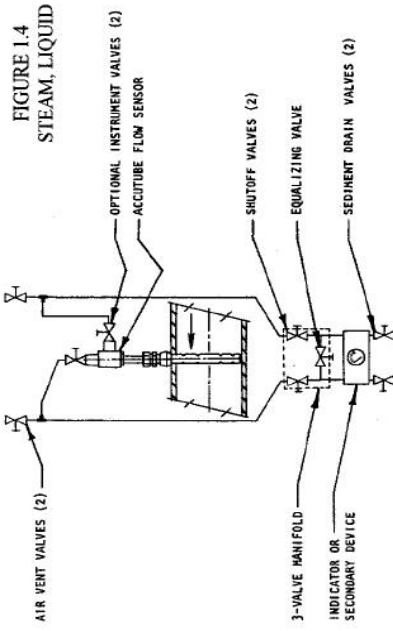

FIGURE 1.4
- 1.2.3.1 As in liquid flow, the indicator should be located below the Accutube. Figure 1.1 shows the recommended configuration. This configuration allows condensate to collect in instrument lines and finds its natural level within the Accutube. See Figure 1.4 for top entry (probe) in horizontal lines.